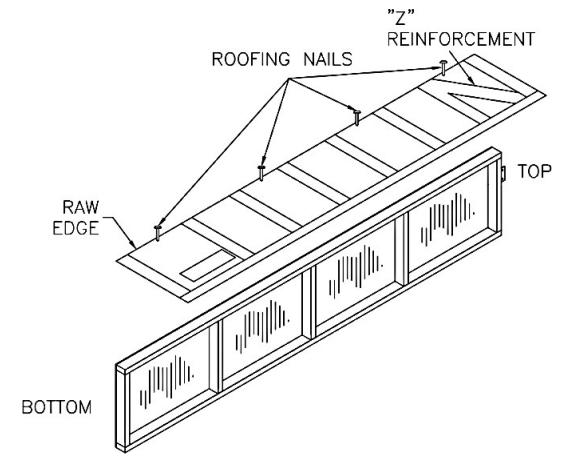

FIG 5A
- Place bottom of Vertical Panel flush with bottom of Vertical Frame (Figure 5a).
- Secure Vertical Panel between stays with three (3) other evenly spaced Roofing Nails.